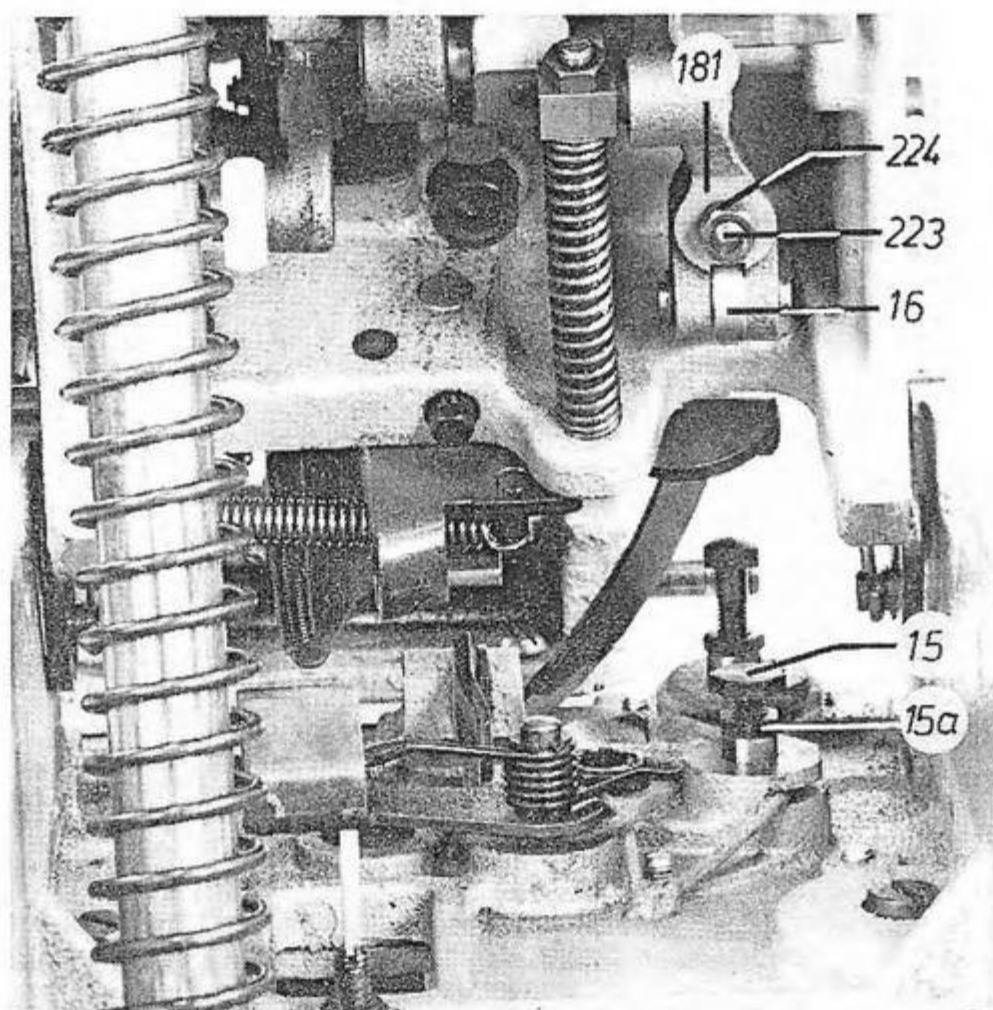

Fig. 26
1. Loosen first the counter nut 224 (fig. 26) and loosen the stop screw 223 so that the maximum stroke is not blocked by the stop screw.
The adjustment is obtained by displacing the block 220 on the lifter bar 199. It must be fixed by the stop screw 223 (fig. 26) in the lifter lever 181. Note that the adjustment should not be modified.